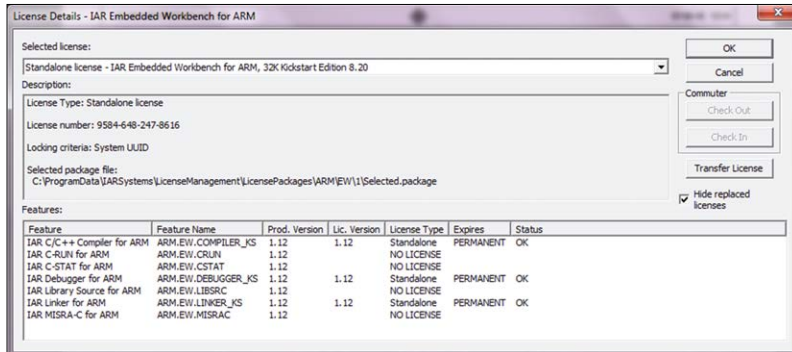

Figure 3.3: Registering with IAR Systems.
- Register with IAR Systems to get an evaluation license (see Figure 3.3). You will have to confirm your registration by clicking at the link sent to your registration address. Enter the license number into the given form and you should then be able to use the product.